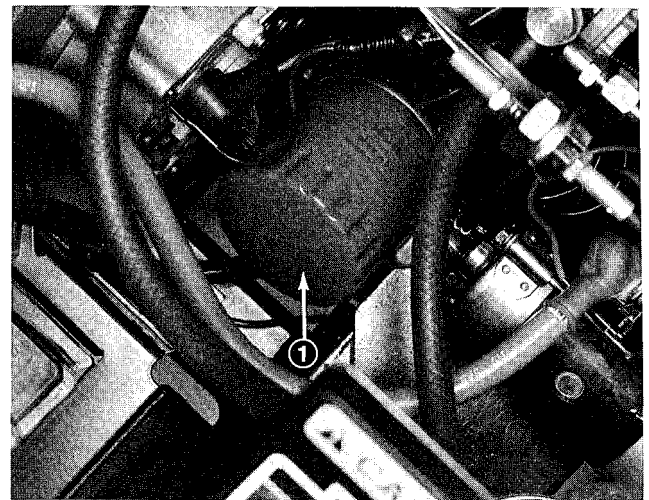

Figure 36
2. Remove oil filter (Fig. 36). Apply a light coat of clean oil to the new filter seal before screwing it on. **DO NOT OVER-TIGHTEN.**